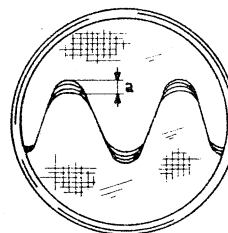

Fig. 14
6.3 Rapid variations of amplitude, (fig. 14), must not exceed